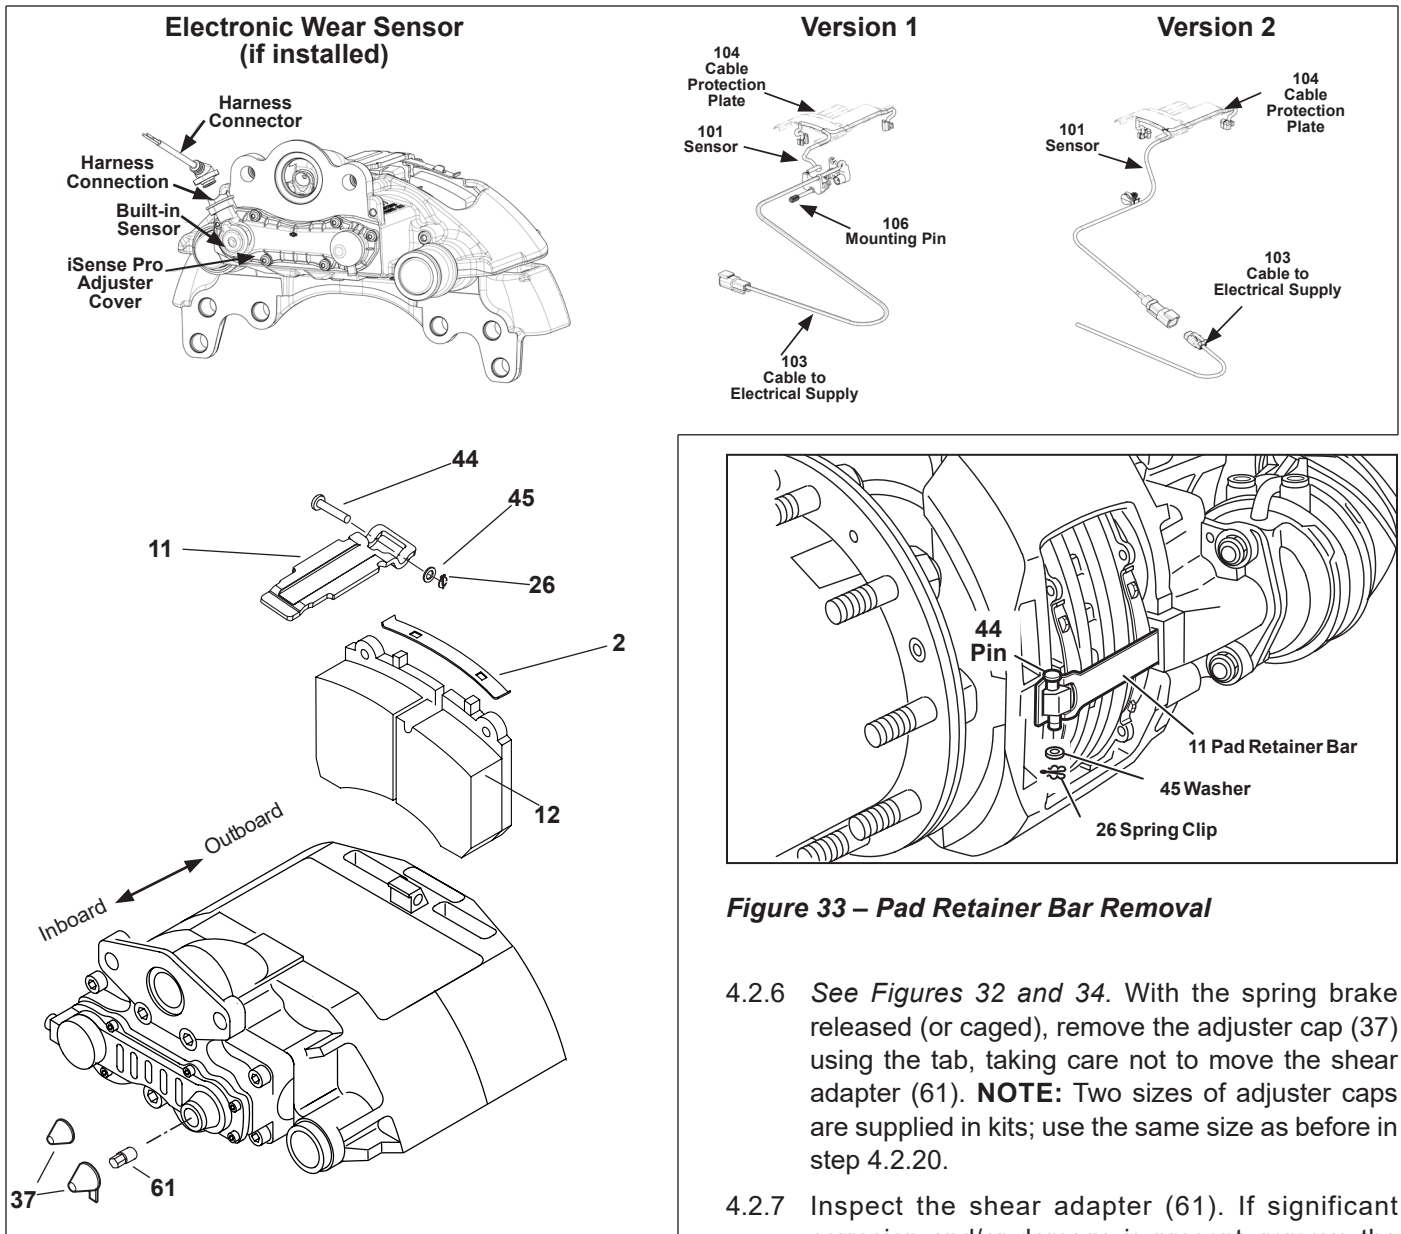

Figure 32 – Pad Replacement
- 4.2.3 If the air disc brake is equipped with a pad wear sensor (see top of Figure 32), note how the wire is installed in the wire shield then remove and discard the wire shield. Disconnect the wear-sensing harness from the jumper harness before removing the pads. The wear-sensing harness and wire shield will be replaced with the brake pads. If the air disc brake is equipped with a continuous wear sensor (see top/bottom of Figure 32), then proceed to the next step.
- 4.2.6 See Figures 32 and 34. With the spring brake released (or caged), remove the adjuster cap (37) using the tab, taking care not to move the shear adapter (61). **NOTE:** Two sizes of adjuster caps are supplied in kits; use the same size as before in step 4.2.20.
4.2.15 If the air disc brake is equipped with a pad wear sensor (see top of Figure 32), insert the wear sensors into position in the new brake pads. Route the sensor cable through the cable protection plate channel and secure the place with the mounting hardware retained at disassembly. Refer to Section 4.2.
If the air disc brake is equipped with a continuous wear sensor (see top/bottom of Figure 32), then proceed to the next step.
- 4.2.21 Push the new pad retainer bar (11) into the groove of the caliper. Press down on the pad retainer bar, and insert the pad retainer pin (44), with the pin pointing downwards, where possible. See Figure 32. Install the supplied washer (45) and then the spring clip (26).